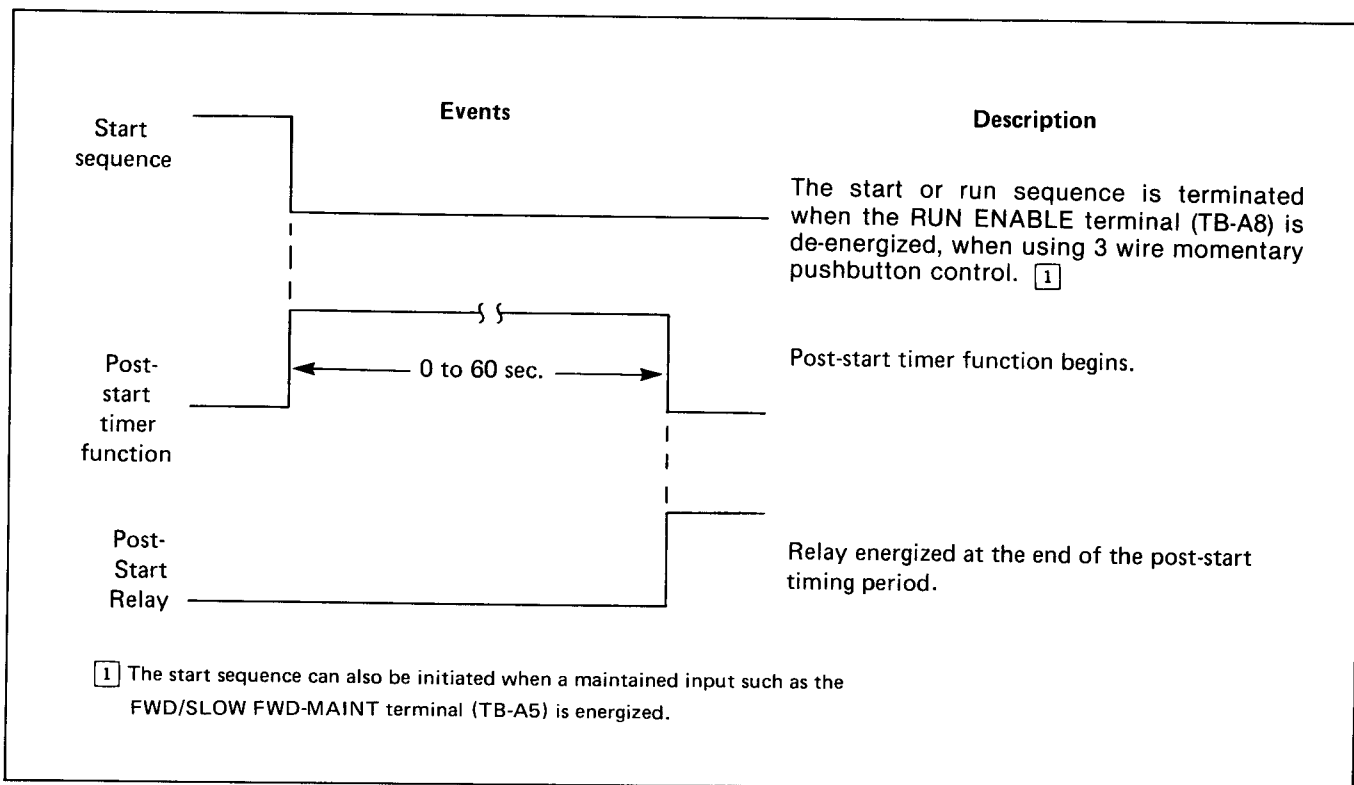

Figure 6.7 — Post-start Events Diagram
6.21 Post-start Timer – The post-start timing setpoint function, initiated after the end of the start sequence, can be used to enable auxiliary control functions **after** the sequence begins. (See Figure 6.7.) For example, a load may be increased on a motor; another motor may be enabled; or, in stepping or process control applications, the next step in the process may be enabled.